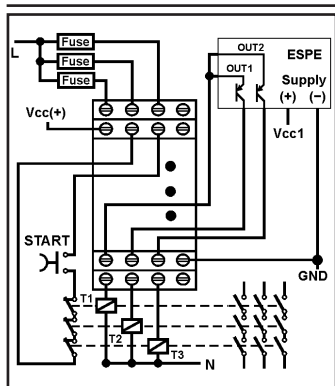

Fig. 7: ESPE: 2 uscite PNP a 2 fili /
- ESPE with two PNP two-wires outputs (e.g. optocoupled PNP-type): connect both emitter outputs to the S21 terminal and the collector outputs to the S11 and S22 terminal, leaving S12 not connected (fig. 7, max. Safety cat. 4).
In Fig. 7 and 8 are shown the connections of ESPE with 2 two-wires